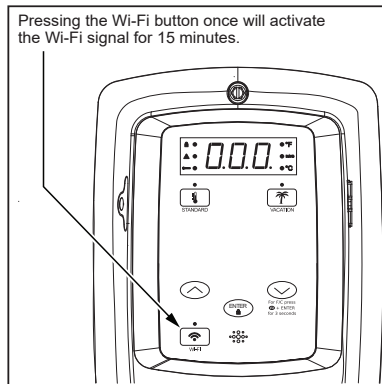

Figure 22 - Wi-Fi Control
- 1 To activate the Wi-Fi signal, press the Wi-Fi button once. The LED will blink on and off in 1/2 second intervals. Wi-Fi will activate pairing mode See Figure 22.